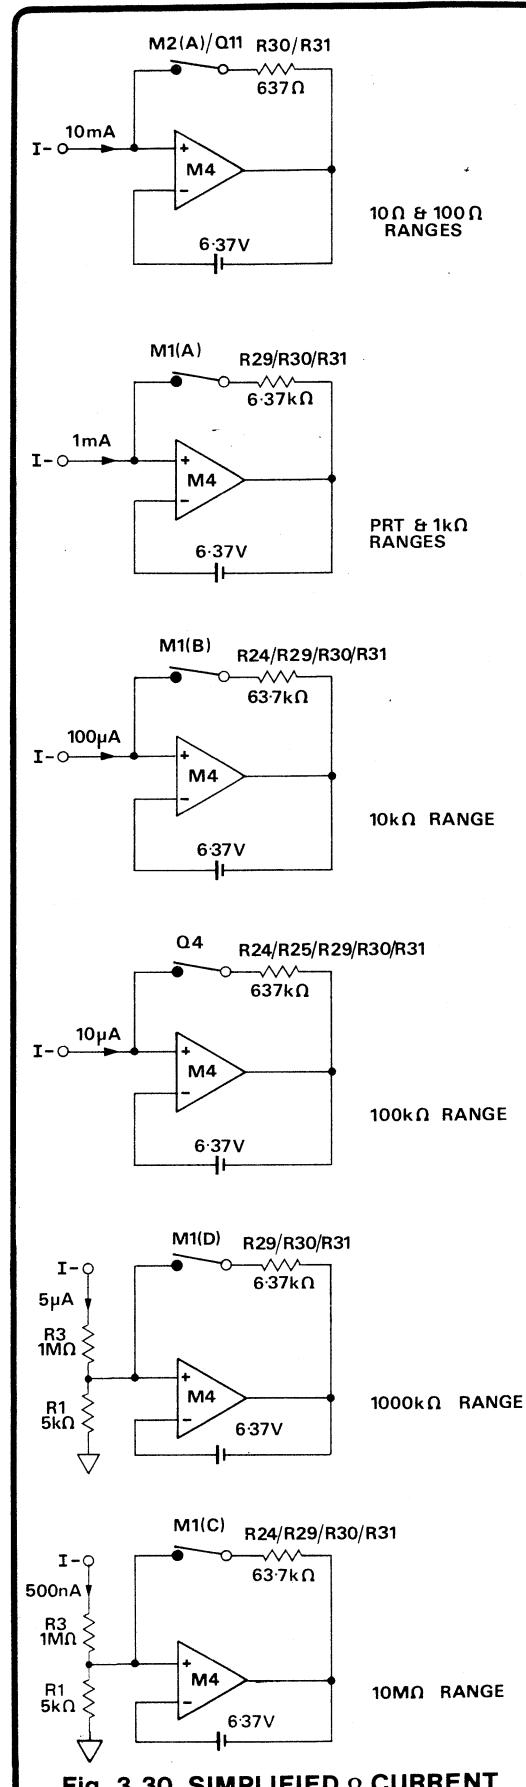

Fig. 3.30 SIMPLIFIED Ω CURRENT SWITCHING
The voltage developed across C8 causes M4 to sink current through resistor chain R24, R25, R29, R30, R31 until the voltage developed across the chain balances that across C8. Thus the current required for a particular range is selected by the value of the resistor chain switched by M1, M2, Q4 and Q11. Simplified diagram Fig. 3.30 shows the resistor chain and switching for each range. On the high resistance ranges leakage paths are provided by Q3, M2(B) and M2(C).